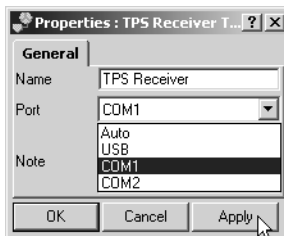

Figure 2-37. TPS Receiver Properties
2. Select the computer port (serial or USB) the receiver is connected to (Figure 2-37).